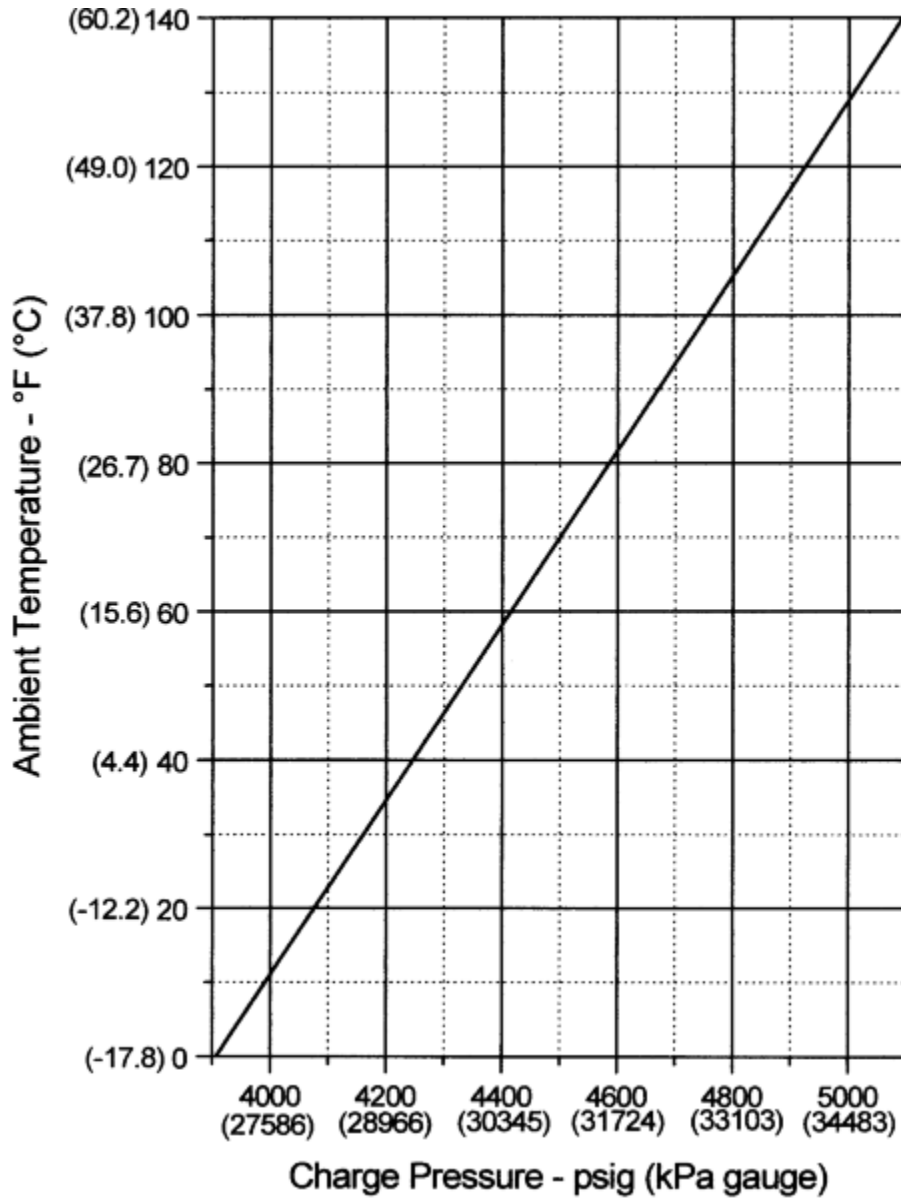

Figure 4-1. Reservoir Cylinder Charge
- B. Connect the servicing equipment to the fill adapter and charge the reservoir to the pressure shown in Figure 4-1.
- C. Allow reservoir cylinder to cool down to ambient temperature and compare pressure charge to requirement on Figure 4-1. Adjust the pressure charge as required.